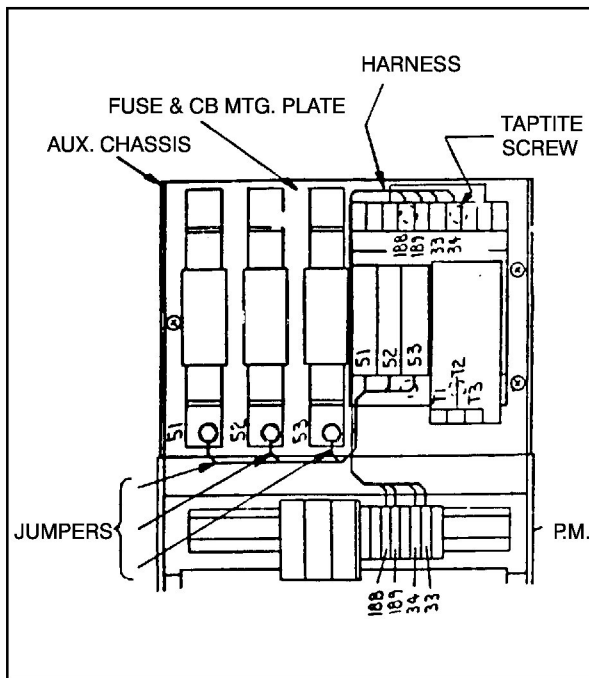

Figure 4 — FlexPak Plus with Blower Motor Starter Kit
- Front location to right of incoming A-C line fuses on the auxiliary chassis fuse/circuit breaker mounting plate. Refer to figure 4.